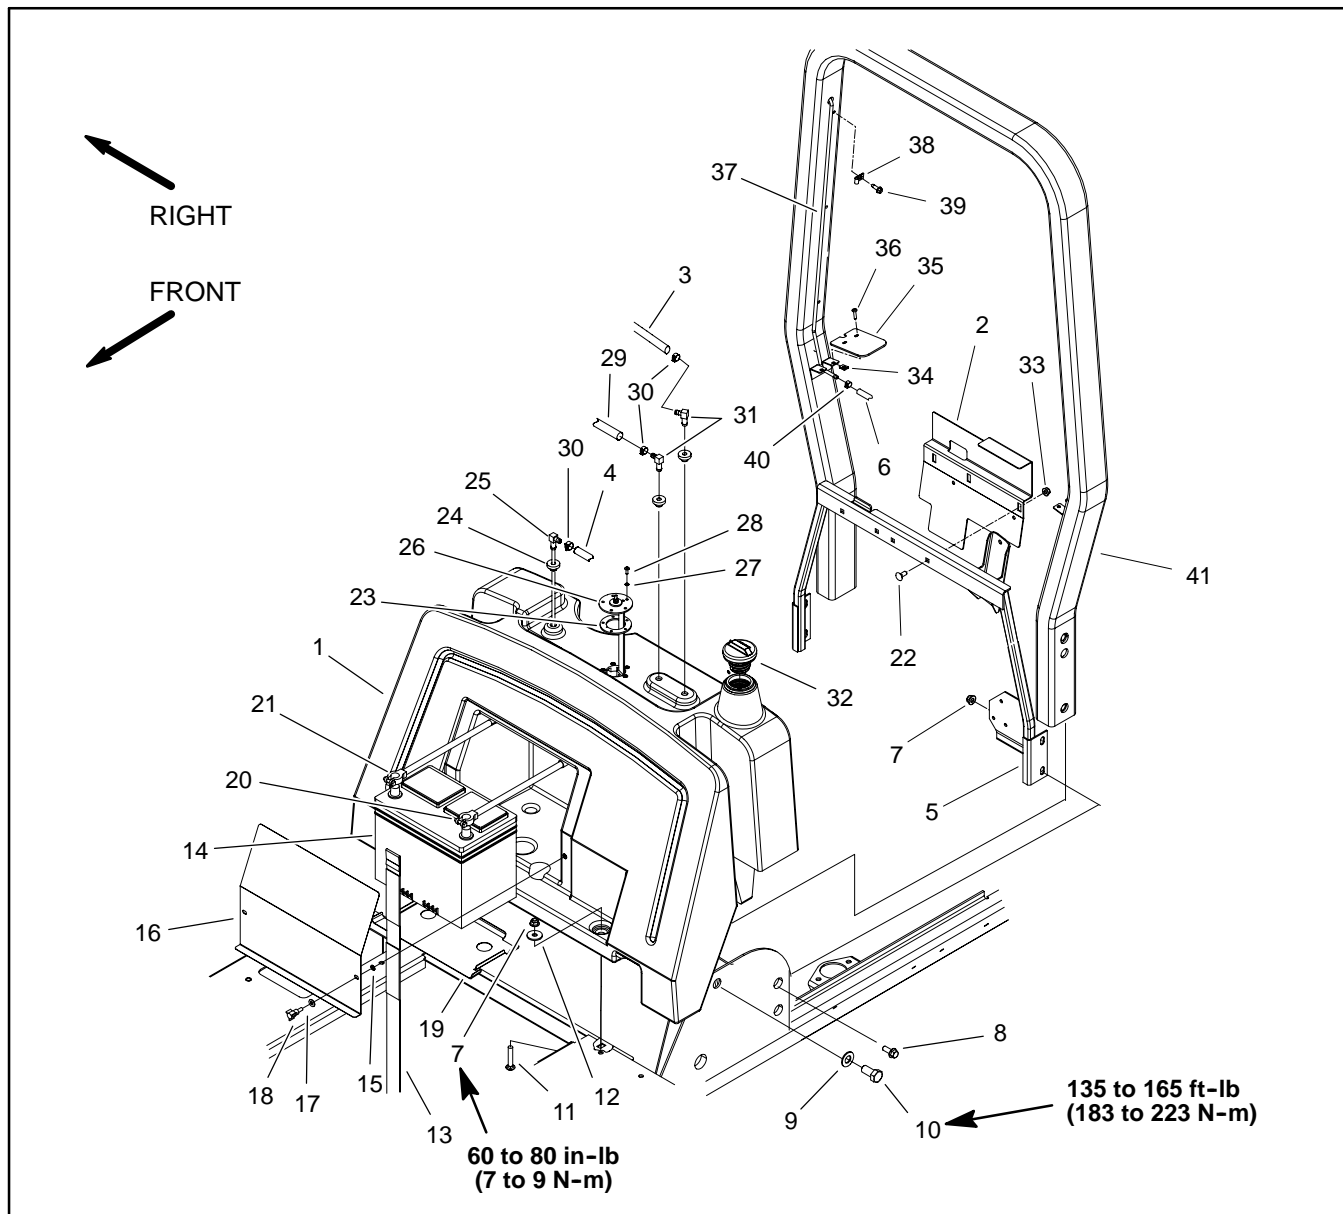
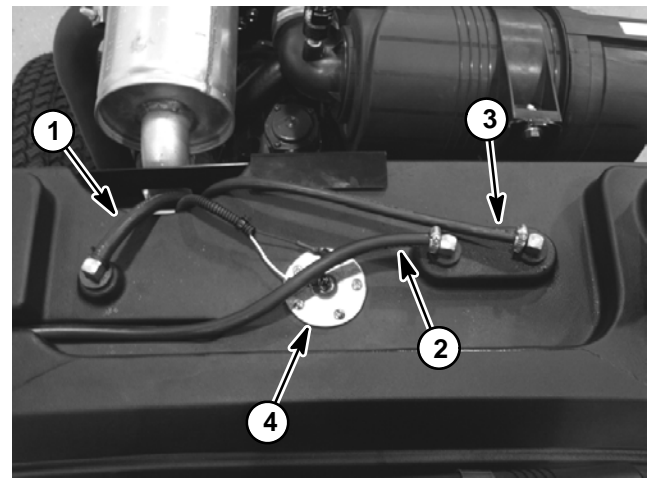

Figure 7
Figure 8
Fuel Tank Removal (Fig. 7)
6. Disconnect fuel supply hose from standpipe and vent and overflow hoses from elbow fittings in top of tank (Fig. 8).
7. Remove phillips head screws that secure two (2) tank covers (item 35) to ROPS assembly. Remove tank covers.
8. Remove fuel tank using Figure 7 as a guide.
Fuel Tank Installation (Fig. 7)
1. Install fuel tank using Figure 7 as a guide.
- A. Torque two (2) flange nuts that secure the fuel tank to the frame from **60 to 80 in-lb (7 to 9 N-m)**.
2. Install two (2) tank covers to ROPS assembly.
3. Connect fuel supply hose to the standpipe and vent and overflow hoses to the elbow fittings (Fig. 8).